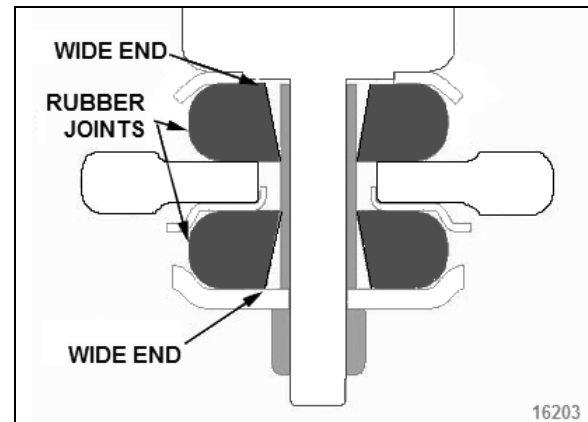

FIGURE 42: LOWER SHOCK MOUNTING BUSHINGS
3. On the lower mounting, take care to install the rubber joints with the wide end of the tapered hole as shown in Figure 42.